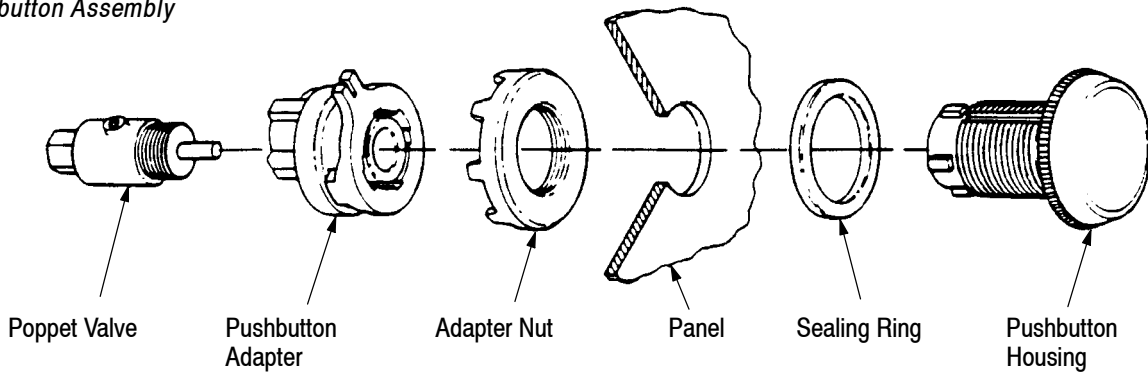

Figure 16
7.4. Pushbutton Replacement for 312522-2 Machine (Figure 16)
2. Install pushbutton housing with sealing ring into panel, as shown in Figure 16.